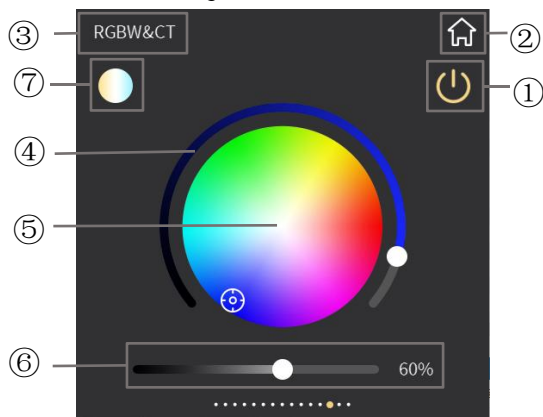
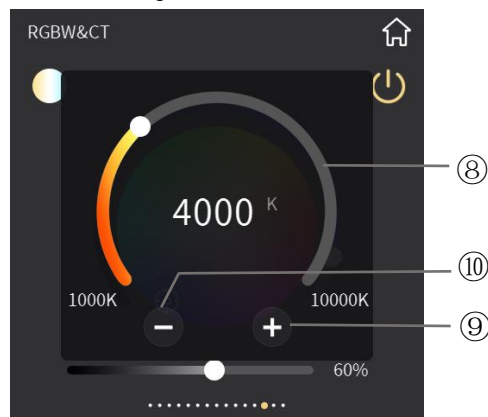
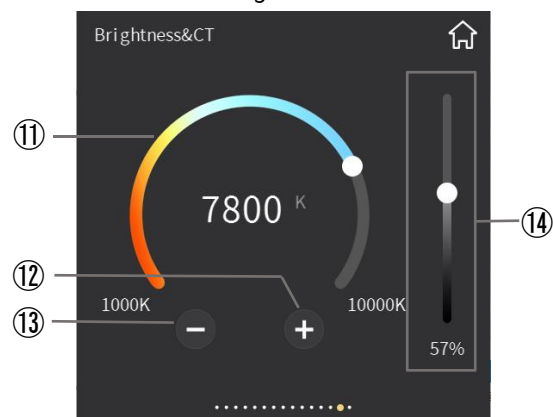
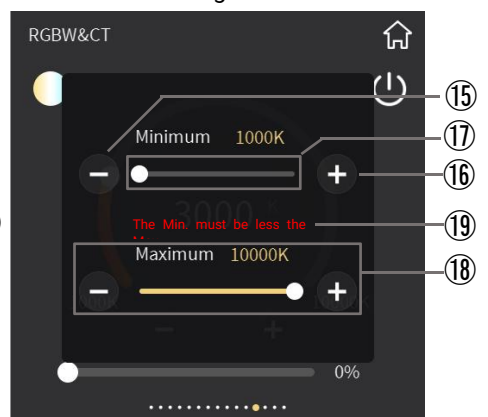

Fig.2.7.3
Fig.2.7.4
Fig.2.7.5
Fig.2.7.6
⑥ **This slider for adjusting the brightness of white light, sliding the slider to adjust the brightness effect of white light.**
When RGB dimming is configured as RGBW+Color Temperature, function page interface is similar to RGB but more a slider⑥ in the bottom, as shown in Fig.2.7.3 and Fig.2.7.4. The adjustment of the white light is independent of the RGB type, RGB color adjustment refers to that of RGB type above, which is no longer described herein.
- ⑦ **Enter the color temperature controlling interface by touching this icon, as shown in Fig.2.7.4;**
⑧ This ring slider is to adjust the color temperature of RGB lamp;
⑨ Increase the color temperature value by touching this icon;
⑩ Decrease the color temperature value by touching this icon;
Color temperature control interface shown as Fig.2.7.4, by sliding the ring slider⑧ or touching the icon⑨ and icon⑩ to control the color temperature of RGB lamp, the adjustment range for each touch of icon⑨ or icon⑩ is 100K. After finishing the adjustment, touch the area outside the sub-window to return to the previous level function page, as shown in Fig.2.7.3.
⑪ This ring slider is to adjust the color temperature of RGB lamp;
⑫ Increase the color temperature value by touching this icon;
⑬ Decrease the color temperature value by touching this icon;
When RGB dimming is configured as Brightness+Color Temperature, function page interface shown as Fig.2.7.5. Sliding the ring slider⑪ or touching the icon⑫ and icon⑬ to change the color temperature value, the adjustment range for each touch of icon⑫ or icon⑬ is 100K.
⑭ Adjust the brightness of the lamp by sliding this slider.
⑮ Decrease the minimum threshold of color temperature by touching this icon;
⑯ Increase the maximum threshold of color temperature by touching this icon;
⑰ Adjust the minimum threshold of color temperature by sliding this slider;
⑱ Adjust the maximum threshold of color temperature. The operation is the same as adjusting the minimum threshold color temperature, which is not described in detail here;
⑲ If the minimum value is greater than or equal to the maximum value, pop up a red reminder;
Enter color temperature threshold adjustment via a long operation on color temperature value, as shown in Fig.2.7.6. The minimum and maximum value of the color temperature threshold can be set. The range is 1000~10000K. Touching icon⑮ and icon⑯ or sliding the slider⑰ to change color temperature threshold, the adjustment range for each touch of icon⑮ or icon⑯ is 100K. If the minimum value is greater than or equal to the maximum value, the setting is invalid.